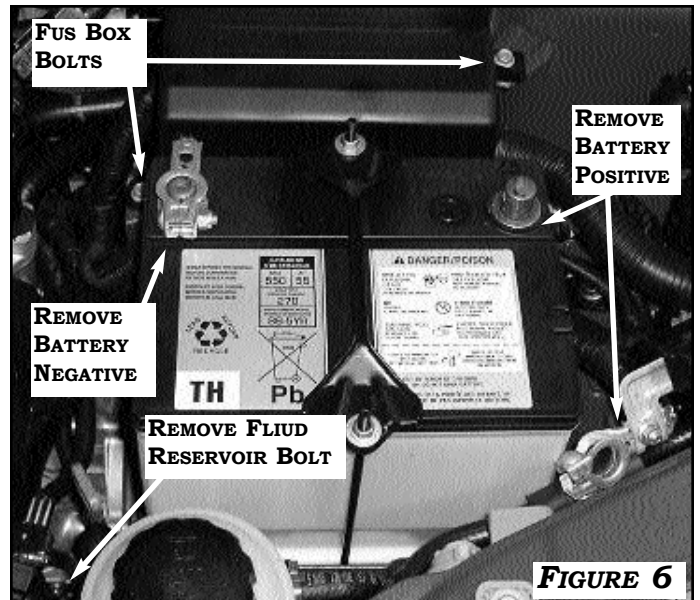

FIGURE 6
1. DISCONNECT NEGATIVE SIDE OF BATTERY (AS ILLUSTRATED IN HINTS). REMOVE THE PLASTIC COVER OVER POSITIVE TERMINAL AND DISCONNECT POSITIVE SIDE OF THE BATTERY. **FIGURE 6**
2. REMOVE (2) TWO 10MM BOLTS SECURING FUSE BOX AND (1) ONE 10MM BOLT SECURING POWER STEERING FLUID RESERVOIR TO BATTERY TRAY. **FIGURE 6**